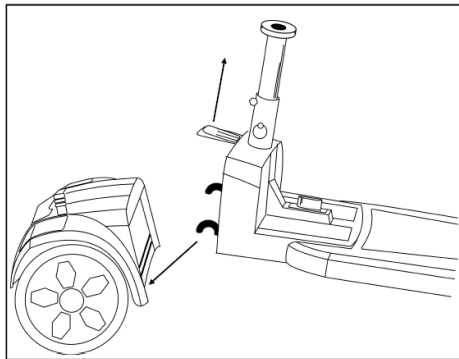

Figure 21: Connecting Frame and Drivetrain
2. Lower the frame onto the drivetrain until the drivetrain release lever engages. You should hear an audible click. See *figure 21*.